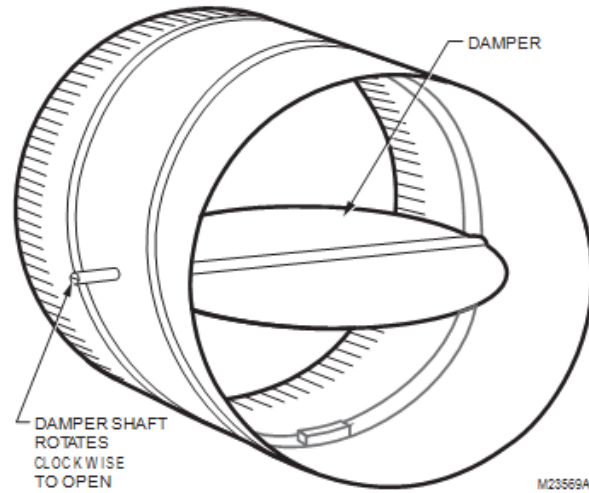
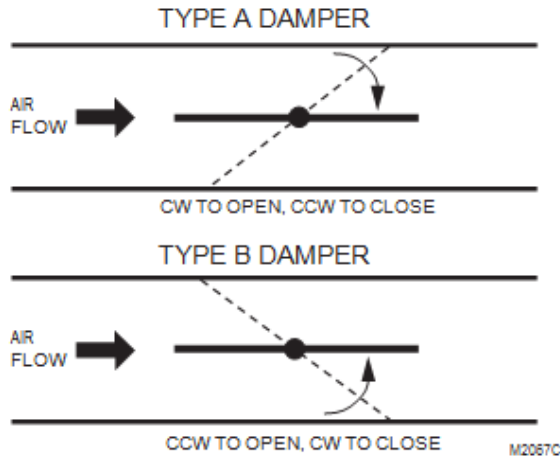

Figure 4: Damper with 90 degree CW rotation to open
Figure 5: Determining the rotation direction (CW or CCW) for damper opening
<p>Determine the damper rotation and opening angle prior to installation. Refer to Figure 4 and Figure 5 for examples</p>
3. Determine the direction the damper shaft rotates to open the damper (CW or CCW) (see Figure 5). Typically, there is an etched line on the end of the damper shaft that indicates the position of the damper. In Figure 4, the indicator shows the damper open in a CW direction.
4. Determine the damper full opening angle (45, 60, or 90 degrees). In Figure 4, the damper is open to its full open position of 90 degrees.